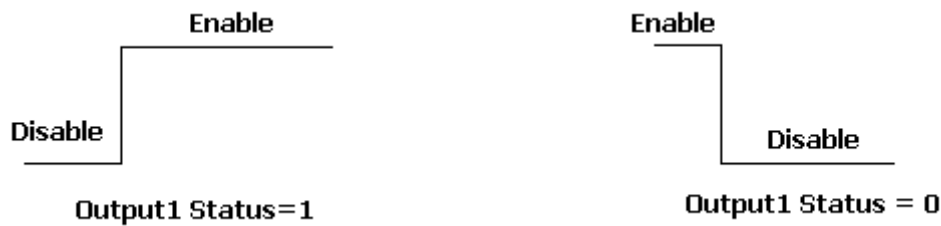
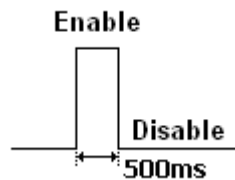
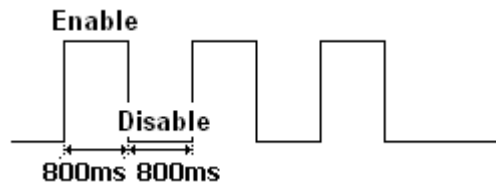
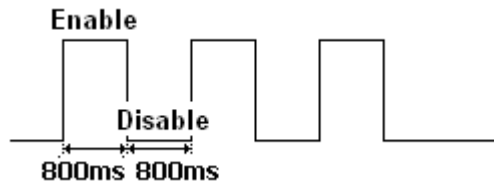

Figure 1: Wave Shape 1
Figure 2: Wave Shape 2
Figure 3: Wave Shape 3
Figure 4: Wave Shape 4
- ✧ <Output Status>: Valid only for the wave shape 1 as shown in **Figure 1** and used to set the final status of the output port.
- ✧ <Duration>: Please refer to **Figure 1, Figure 2, Figure 3** and **Figure 4**. Unit: 100ms.
- ✧ <Toggle Times>: Please refer to **Figure 1, Figure 2, Figure 3** and **Figure 4**.